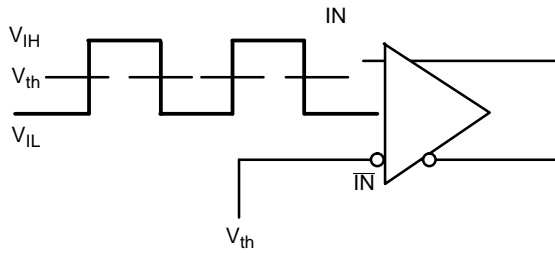

Figure 5. Differential Input Driven Single-Ended
**DIFFERENTIAL CLOCK INPUTS DRIVEN SINGLE-ENDED** (Figures 5 & 7) (Note 11)
**DIFFERENTIAL CLOCK INPUTS DRIVEN SINGLE-ENDED** (Figures 5 & 7) (Note 17)